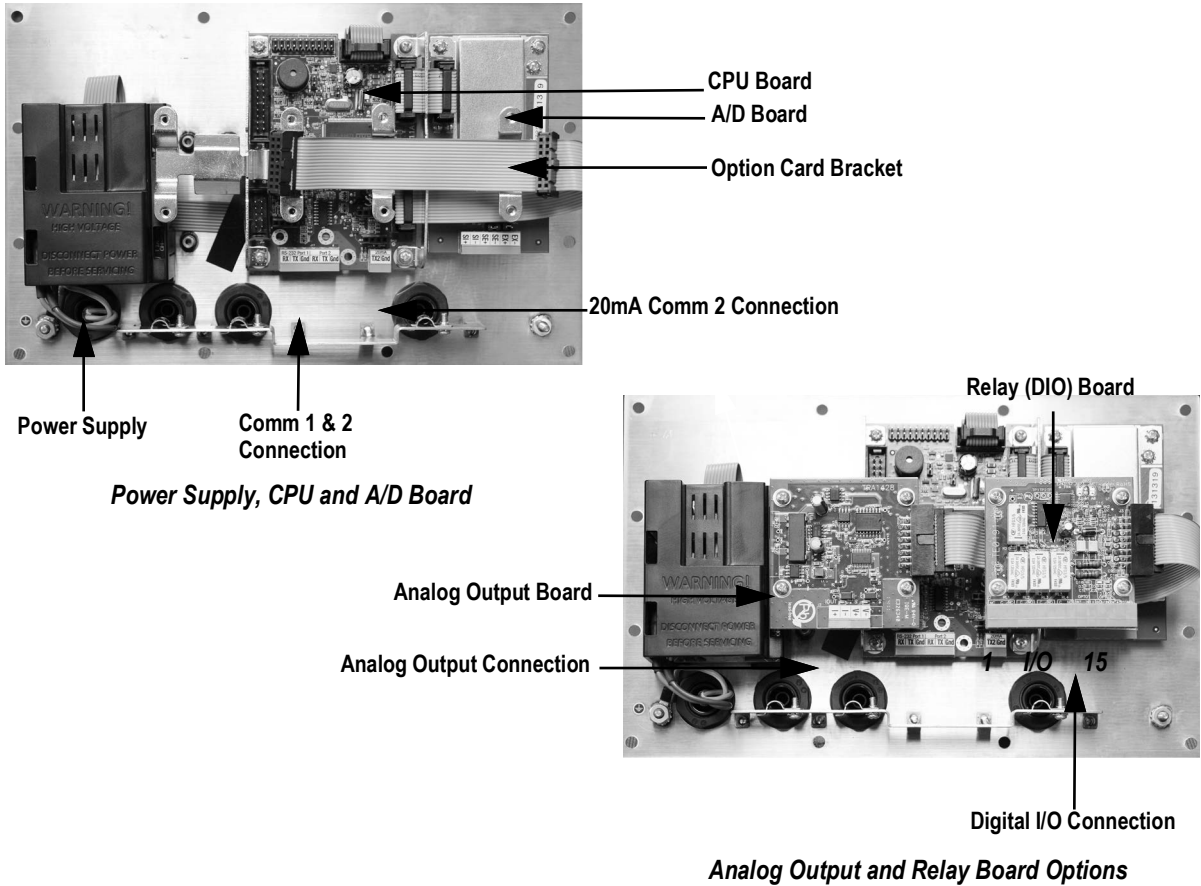

Figure 2-5. 482 Board Options
3. If not already in place, install an option card bracket (PN 131340), See Figure 2-5 on page 20.
4. Mount the analog output module or relay card on the option card bracket. See Figure 2-5 on page 20.